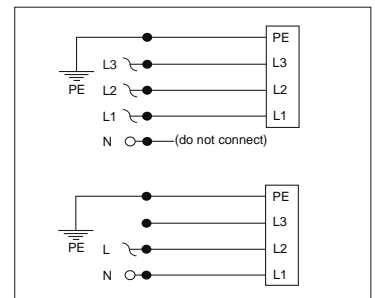

fig 3 - 2
- For a single phase grid, connect Null and Line between L1 and L2, see fig. 3 - 2.